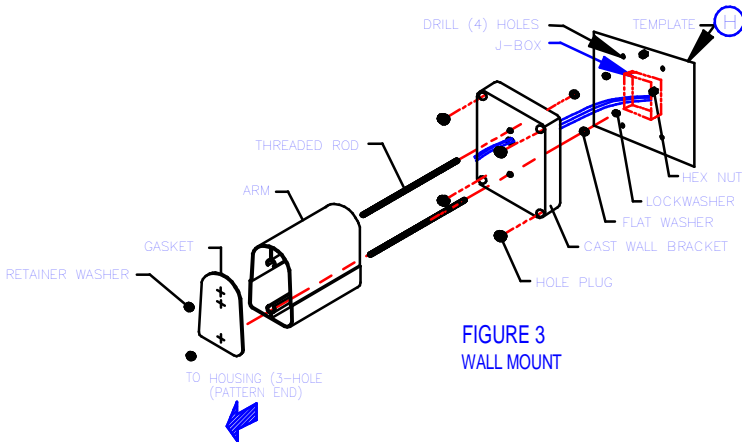

FIGURE 3
E. WALL MOUNT INSTALLATION (FIGURE 3 AND 4)